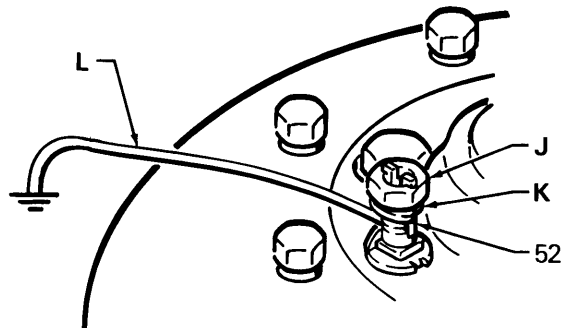

Fig 2
To ground the air motor, use a grounding wire and clamp as shown in Fig 2. Loosen the grounding lug locknut (J) and washer (K). Insert one end of the ground wire (12 ga minimum) (L) into the slot in lug (52) and tighten the locknut securely.